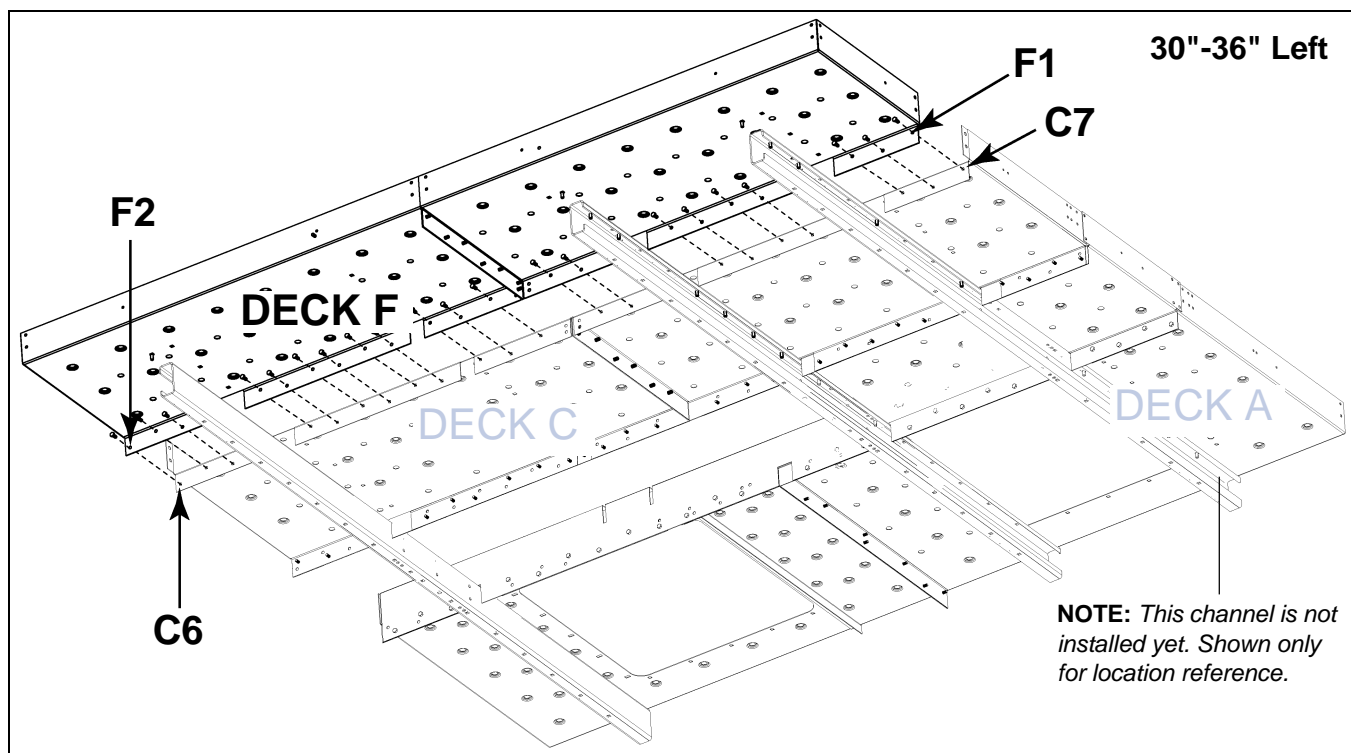

Figure 9M Deck F to Deck C
5. Orient Deck F flange outside of Deck C flange. *(See Figure 9M on Page 74.)*